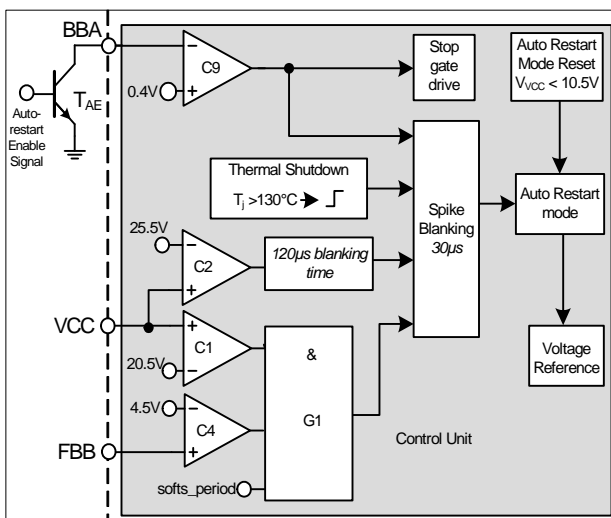

Figure 29 Vcc OVP, OTP, external protection enable
Vcc OVP (1) condition is when V_{VCC} voltage is $> 20.5V$, V_{FBB} voltage is $> 4.5V$ and during soft start period, the IC enters into odd skip Auto Restart Mode. This condition likely happens during start up at open loop fault. (Figure 29).
Vcc OVP (2) condition is when V_{VCC} voltage is $> 25.5V$, the IC enters into odd skip Auto Restart Mode (Figure 29).
The over temperature protection OTP is sensed inside the controller IC. The Thermal Shutdown block keeps on monitoring the junction temperature of the controller. After detecting a junction temperature higher than $130^{\circ}C$, the IC will enter into the non switch Auto Restart mode. The F3R80 has also implemented with a $50^{\circ}C$ hysteresis. That means the IC can only be recovered when the controller junction temperature is dropped $50^{\circ}C$ lower than the over temperature trigger point (Figure 29).
base pin of an external transistor, T_{AE} at the BBA pin. When this function is enabled, it will enter into the non switch auto restart mode. The gate drive is stopped and there is no switching pulse before it is recovered (Figure 29).